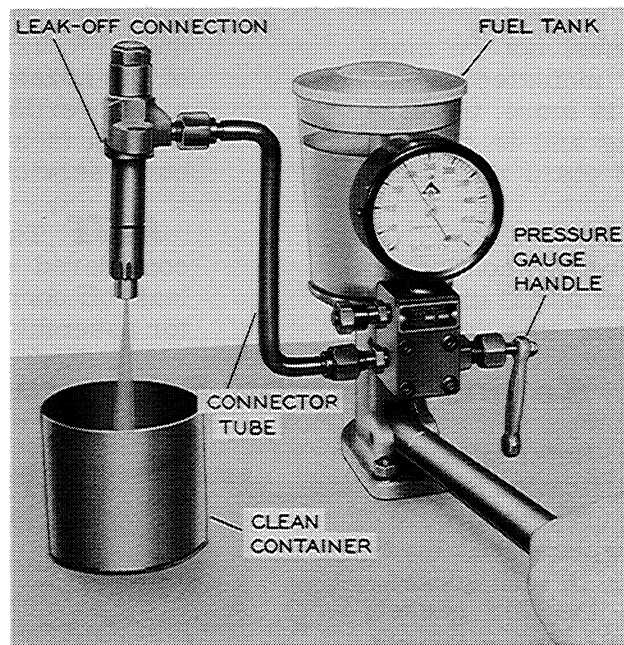

Figure I-15. Testing the Injector on a Bacharach Test Stand
1. Remove the protective cap from the high pressure connection on the nozzle holder and from the nozzle end. Connect the injector to the test stand connector tube as shown in Figure I-15.
2. Close the pressure gauge valve (turn it fully in) Figure I-15, and operate the hand lever rapidly for a few strokes to clear all air from the injector.